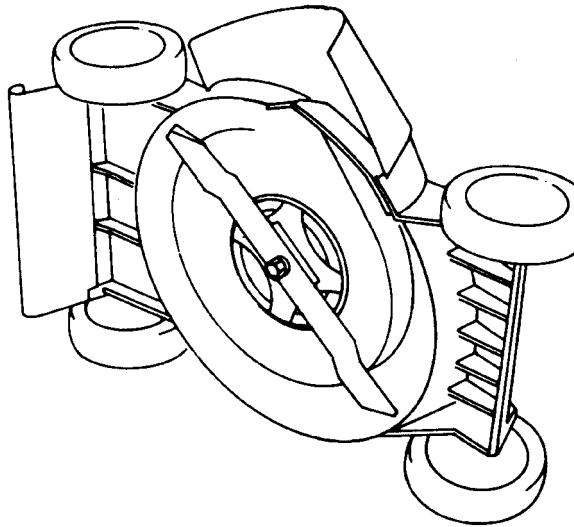

Figure 12
3. Tip the lawn mower onto its **left** side (air cleaner up) (Fig. 12).